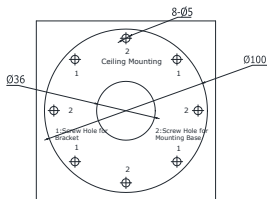

Figure 2-5 Drilling Holes in the Wall/Ceiling
1. Attach the drill template (supplied) to the wall where the camera is to be mounted and drill holes in the wall according to holes on the drill template. See Figure 2-5.